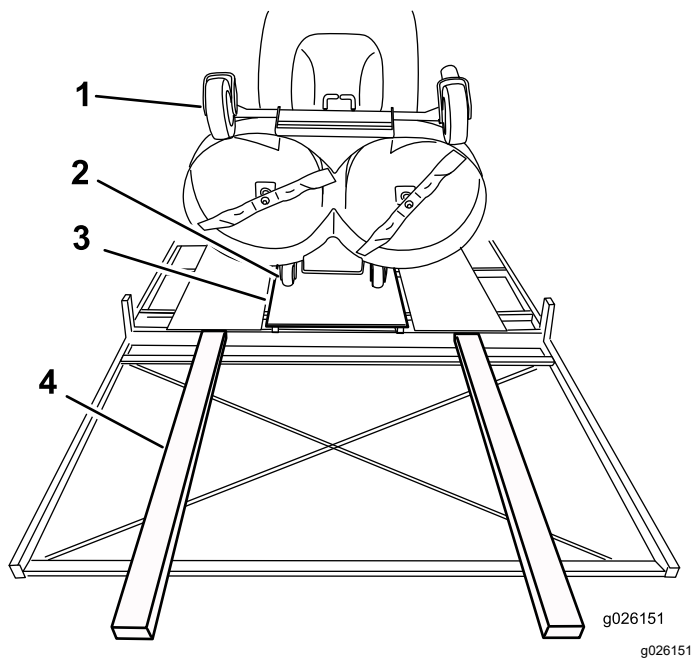

Figure 8
- To form a ramp, place 2 long pieces of wood in front of each front-caster tire (Figure 8).